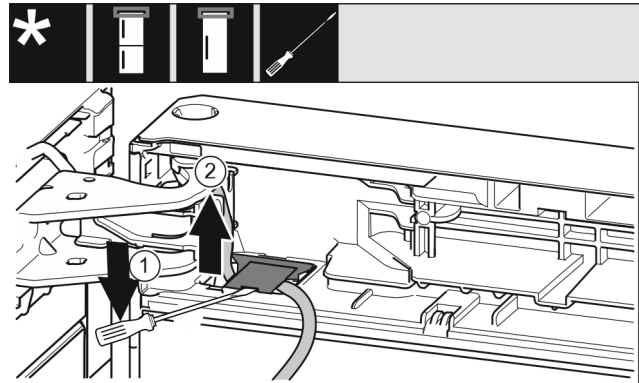

Fig. 19
- ▶ Lift up the cover with the slotted screwdriver and pull it out. Fig. 19 (1)
- ▶ Pull out the cable. Fig. 19 (2)